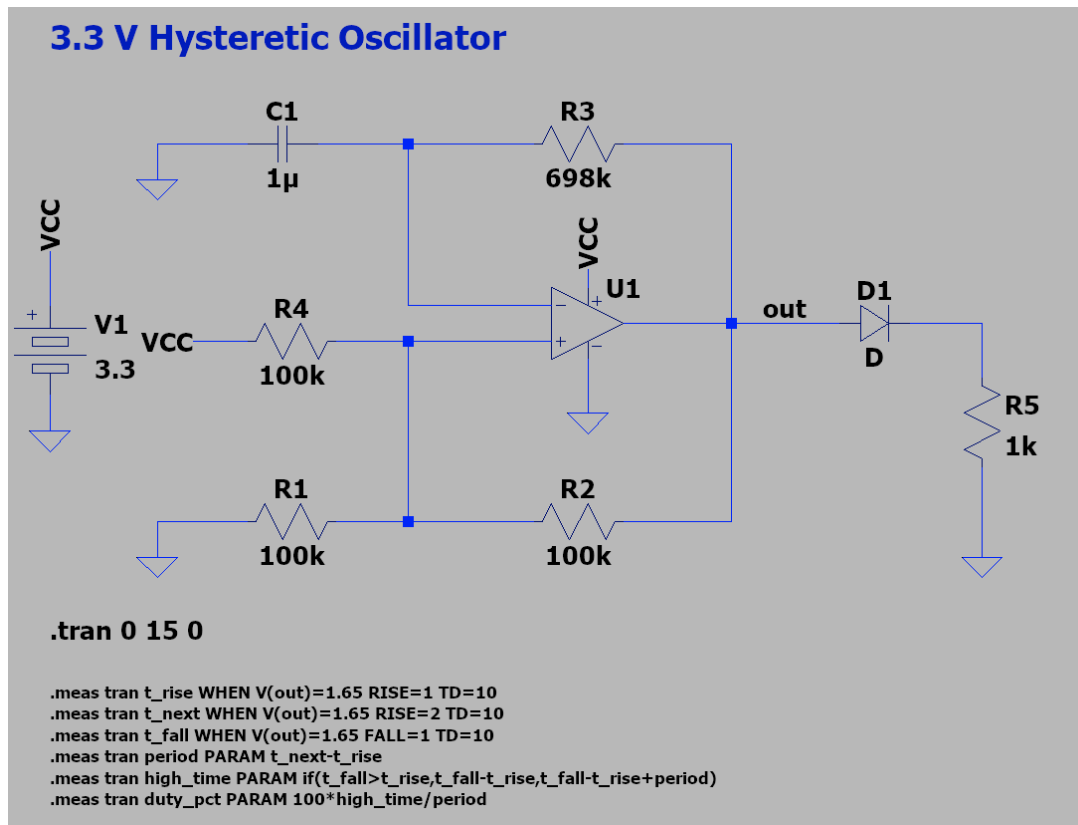

Figure 3: LTspice schematic with .meas statements for period and duty cycle.
The oscillator was also simulated in LTspice, mainly for practice with the tool. The simulation (fig. 3) is the same circuit as the board with a generic op-amp model and an ideal 3.3 V source in place of the USB input and regulator. It was run before the final timing parts were chosen, so it uses $R = 698\text{ k}\Omega$ and $C = 1\text{ }\mu\text{F}$; from eq. (3) the predicted period for those values is $2(0.698) \ln 2 = 0.968\text{ s}$.